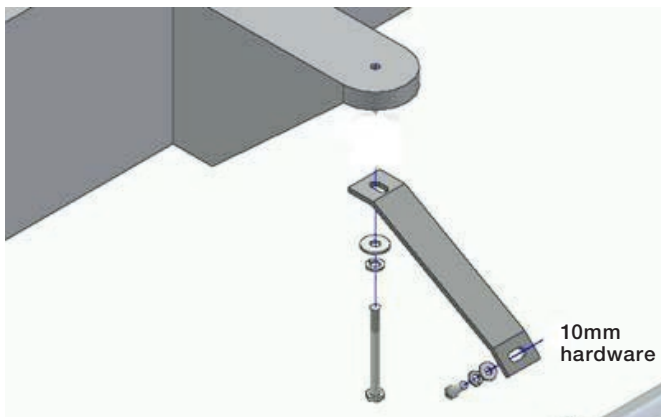
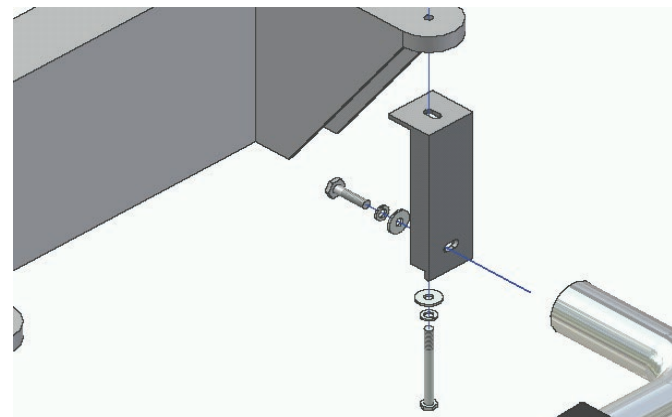

Figure 3 - Middle bracket
Figure 4 - Rear bracket
3. Repeat step 2 to secure the rear (see figure 4) and middle (see figure 3) mounting brackets to the vehicle.